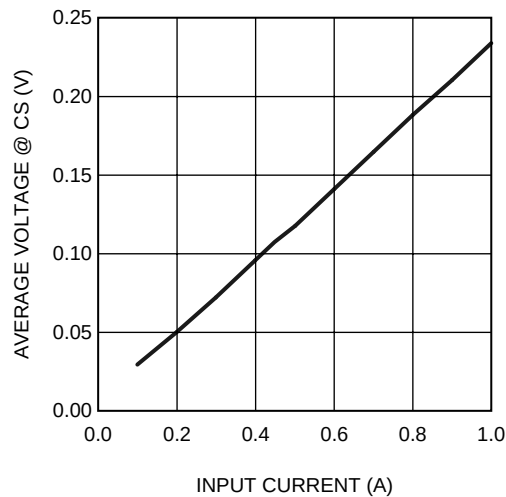
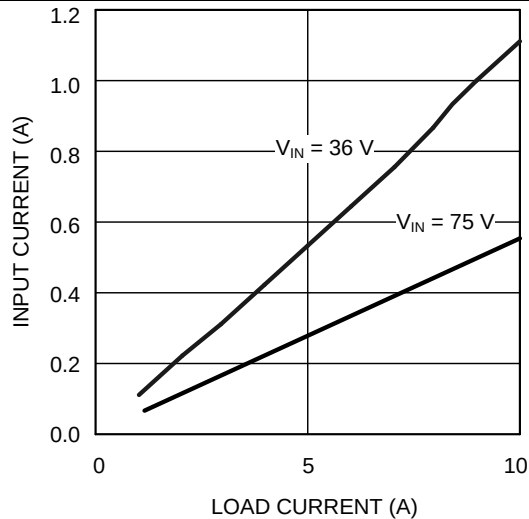

Figure 10. Average Voltage at the CS Pin vs Input Current
Figure 12. Input Current vs Load Current and V_{IN}
Monitoring the input current provides a good indication of the operation of the circuit. If an overload condition should exist at the output (a partial overload or a short circuit), the input current would rise above the nominal value shown in Figure 12. Transformer T2, in conjunction with D3, R9, R12 and C10, provides a voltage to pin 8 on the LM5030 (CS) which is representative of the input current flowing through its primary. The average voltage seen at pin 8 is plotted in Figure 10. If the voltage at the first current sense comparator exceeds 0.5 V, the LM5030 disables its outputs, and the circuit enters a cycle-by-cycle current limit mode. If the second level threshold (0.625 V) is exceeded due to a severe overload and transformer saturation, the LM5030 will disable its outputs and initiate a softstart sequence. However, the very short propagation delay of the cycle-by-cycle current limiter (CS1), the design of the CS filter (R9, R12, and C10), and the conservative design of the output inductor (L2), may prevent the second level current threshold from being realized on this evaluation board.